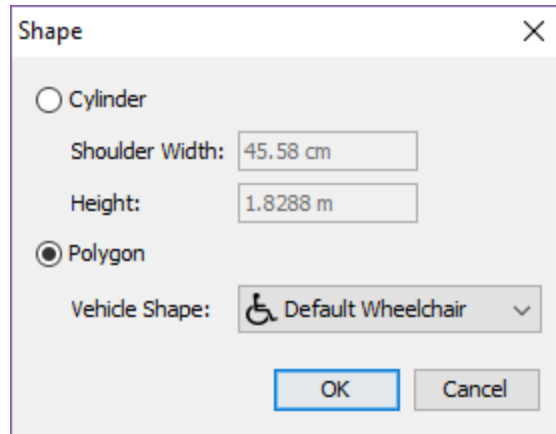

Figure 128. The Shape Dialog where a user may select a vehicle shape for a client
- Choose a **Vehicle Shape** for the client (see Section 5.1.9 and Figure 128) by editing the **Shape** parameter on the occupant properties panel. *All clients must have a vehicle shape* (see Section 5.2). Either choose a default shape or define a custom shape with user-defined positions for assistants.